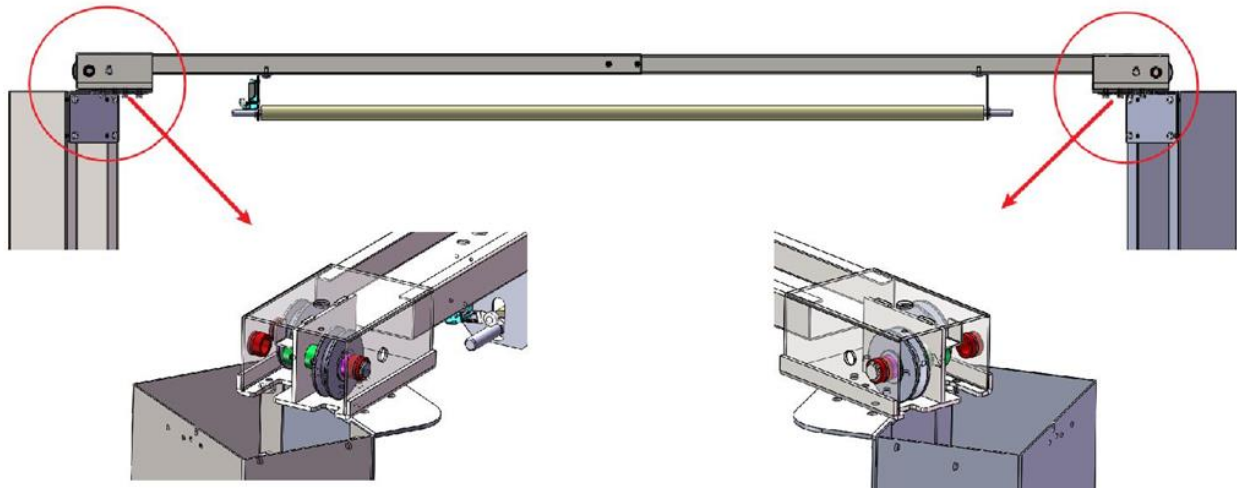

Fig. 9 Asymmetric Installation
- B. For asymmetric installation, use 4 short shafts and 2 short shaft sleeves in the accessory box to fix the cable pulley (See Fig.9)